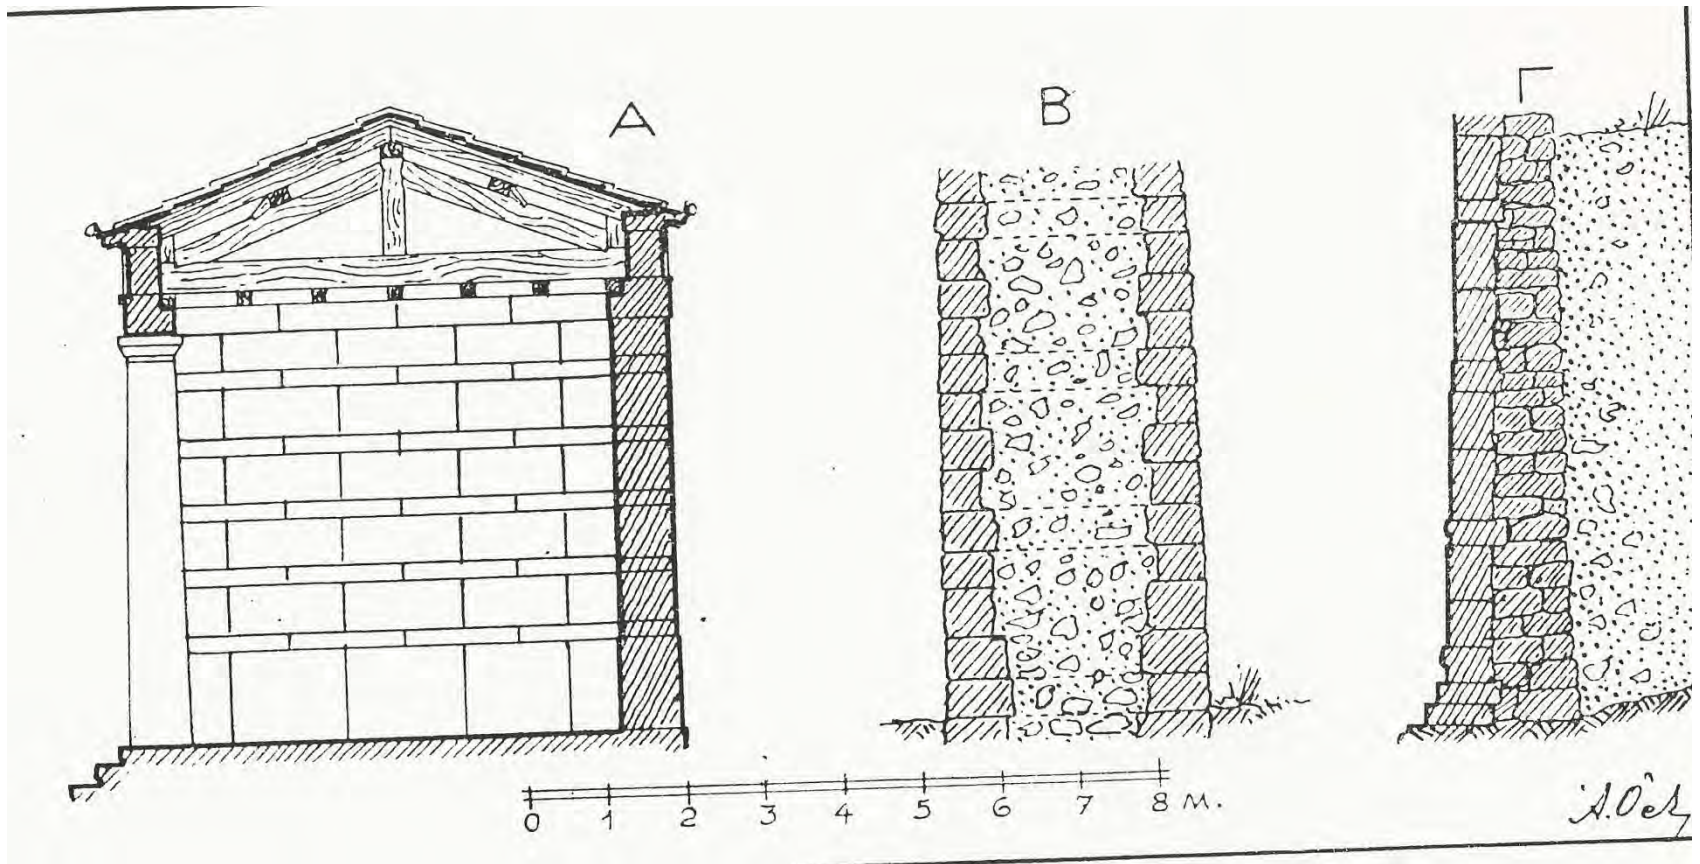

Fig.43. Comparative thicknesses of walls, (Orlandos)
- Comparative thicknesses, (Fig. 43)